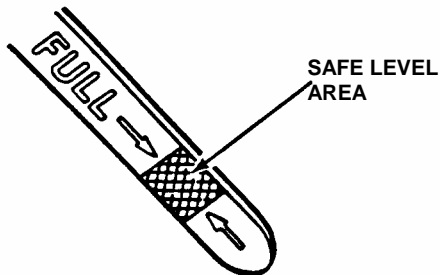

FIGURE 2.1
- 2.1.3. Check engine oil and add as needed to bring level up to the FULL mark. Refer to engine owner's manual for oil specifications. See Figure 2.1.